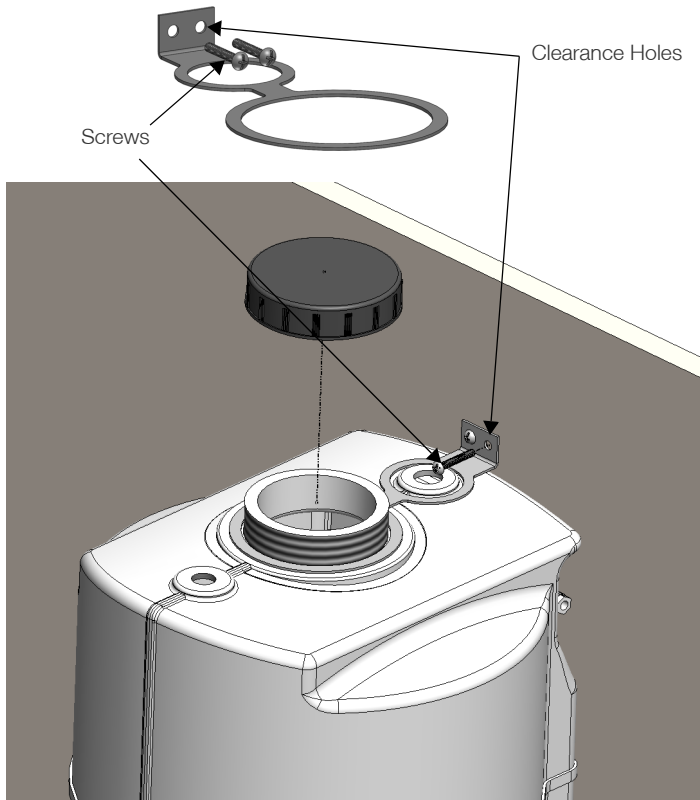

Figure 8. Upper mount bracket
6. Screw in the two screws with a Phillips screw driver into the wall where you have put in the plugs before (refer to **Figure 8**).